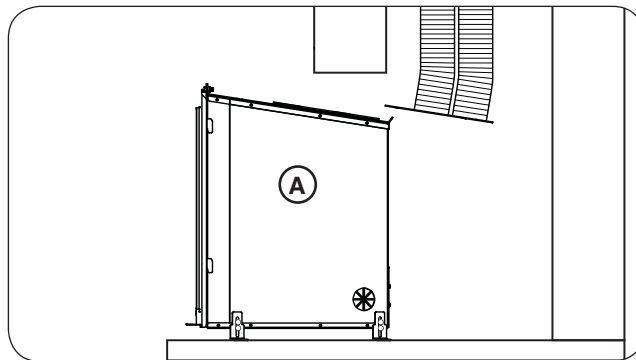

Fig. 23-1 Partially slide in unit
1. Carefully slide the direct vent insert just inside of the fireplace opening, still allowing for access to the interior of the fireplace (see Fig. 23-1, A). Ensure the insert is properly supported during this entire process.